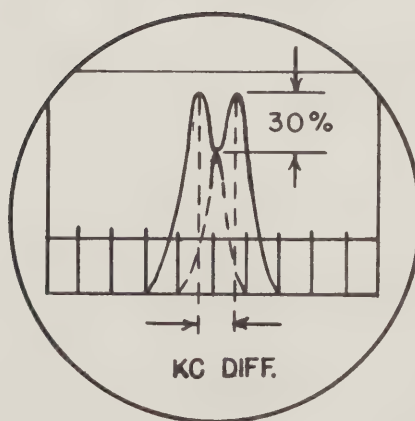

Figure 7-2. Resolution
g. The resolution of the indicator is measured at maximum sweep width (100 KC). Two signals, 397.5KC and 402.5KC, of equal amplitude are fed to J101. Refer to Fig. 7-2. The signals should intersect at point lower than 30% of the pip height. Resolutions is defined as the frequency separation of the pips for an intersection at 30%.